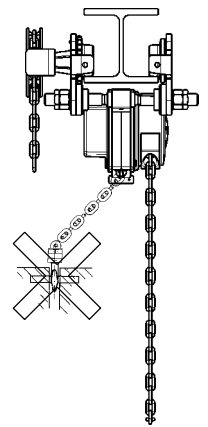
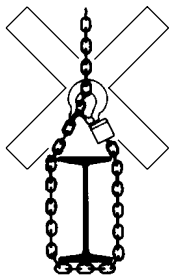

Fig. 4
Fig. 5
- Avoid side pull, i. e. side load on housing or bottom block (Fig. 4).
- The load chain must not be used for lashing purposes (sling chain) (Fig. 5).
INSTALLING THE TROLLEY**LHP/G (Fig. 4 and Fig. 5)**